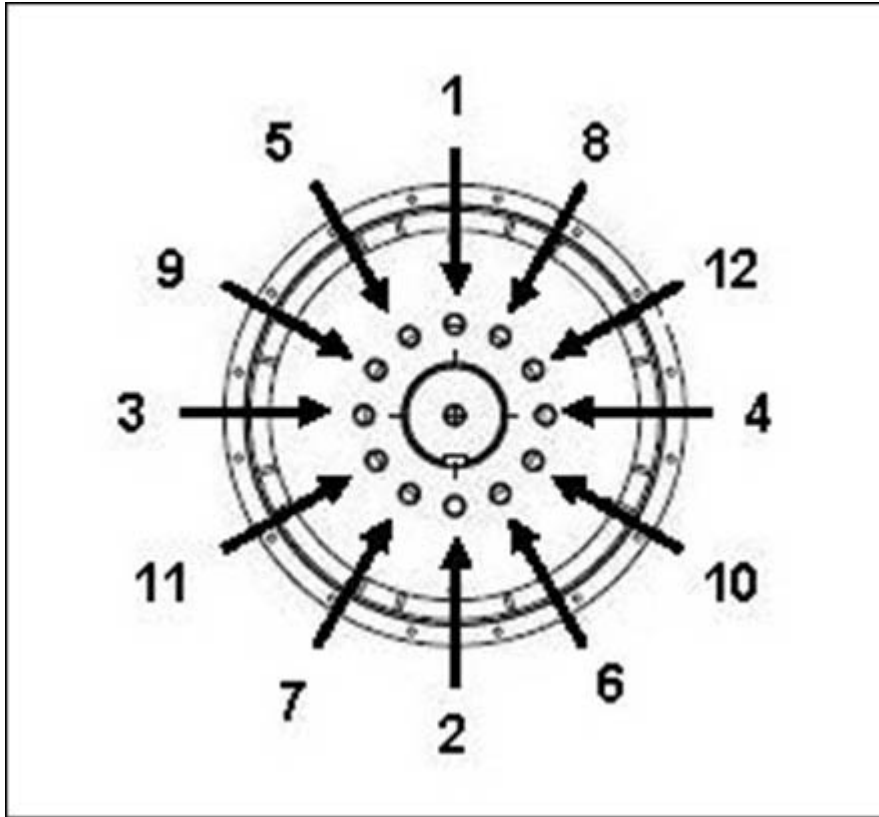

FIGURE 15. FIXING SEQUENCE TO HUB
4. If required, tighten the coupling disc bolts in the sequence shown in Figure 15 on page 29.